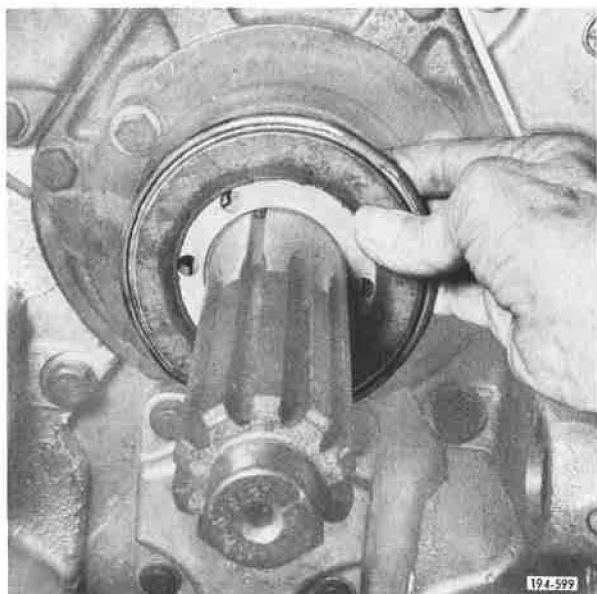

Figure 5-229. Removing Clutch Brake
7. Remove clutch brake from input shaft. See Figure 5-229.